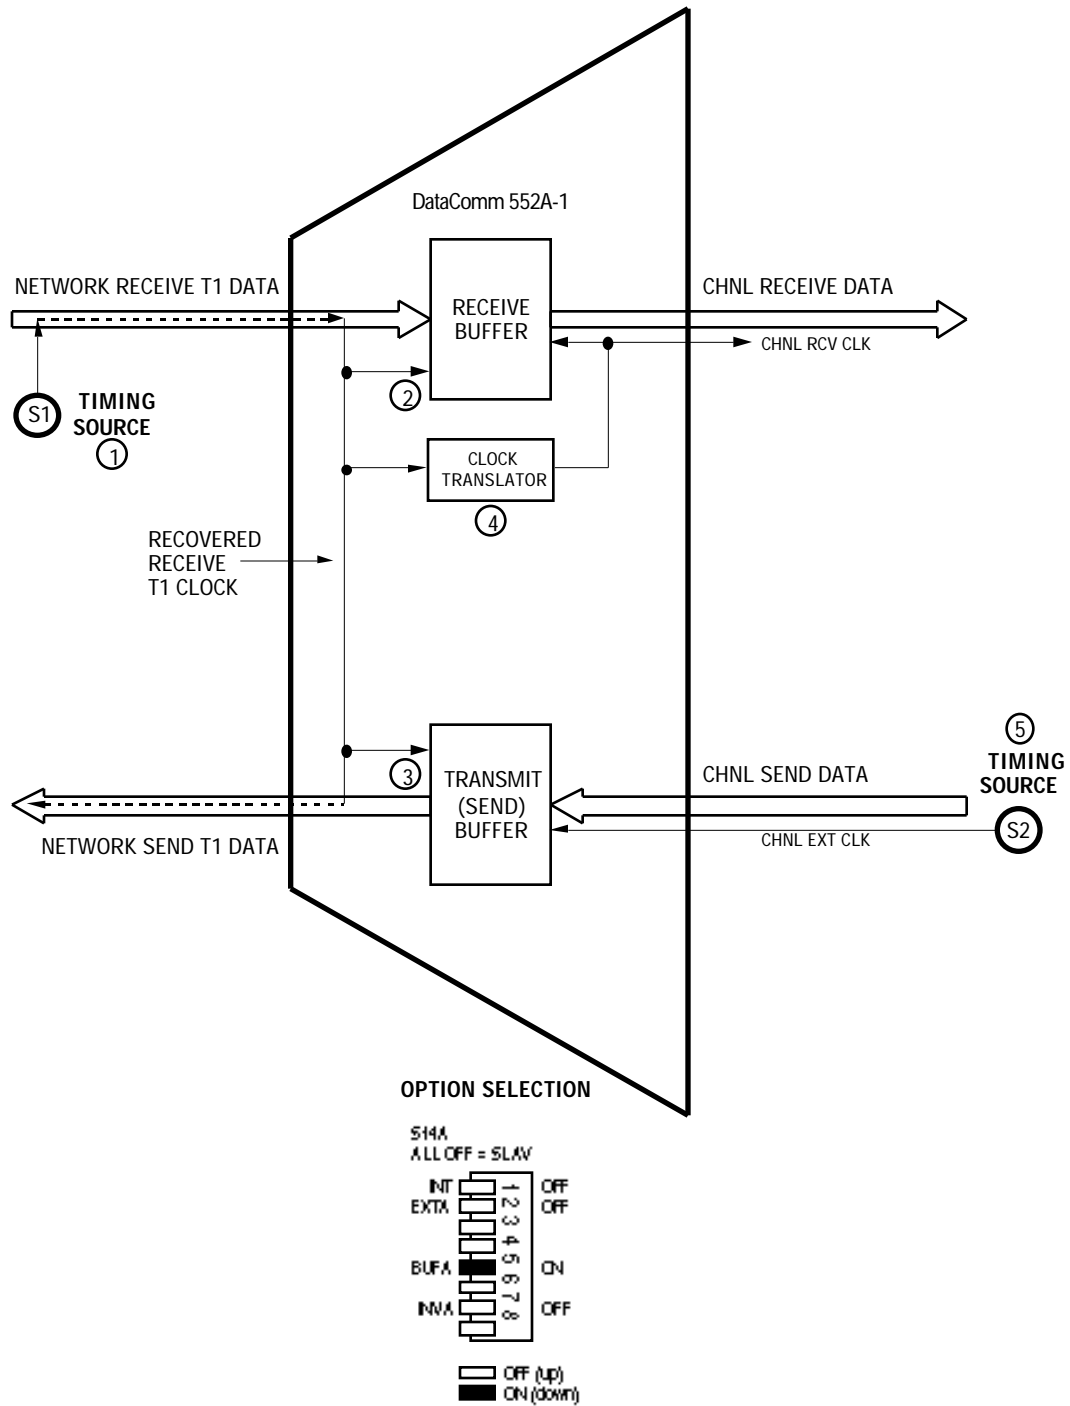

FIGURE B-5. CHANNEL SPLIT TIMING
Channel Split Timing, illustrated in Figure B-5, is a combination of Slave Timing and Channel Timing, and it utilizes two clock sources. As in Slave Timing, the network (or a device at the remote end) provides one timing source (1). The DSU recovers the receive T1 clock from the network receive T1 data and uses it to clock T1 data into the receive buffer (2) and to provide the send timing source for T1 data output from the transmit buffer (3) to the network. The DSU also translates (4) the receive T1 clock to provide the receive clock signal for the channel, on the appropriate interface lead. As in Channel Timing, the customer channel equipment provides the other timing source, its own channel transmit clock signal (5) on the appropriate interface lead, but the DSU uses it for nothing else.